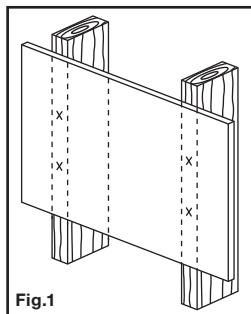

Fig.1
3. While another person holds the wall plate in position, mark four or six locations (two per stud) for securing the mount to the wall (see Fig.1).